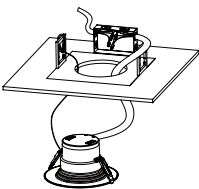

Fig. 4
- Step 4: Insert lamp conduit into the J-box and wire to power source (black to hot, white to neutral, violet to 0-10V dimming positive, gray to 0-10V dimming negative ) ( Fig. 4). Reattach J-box cover when done.